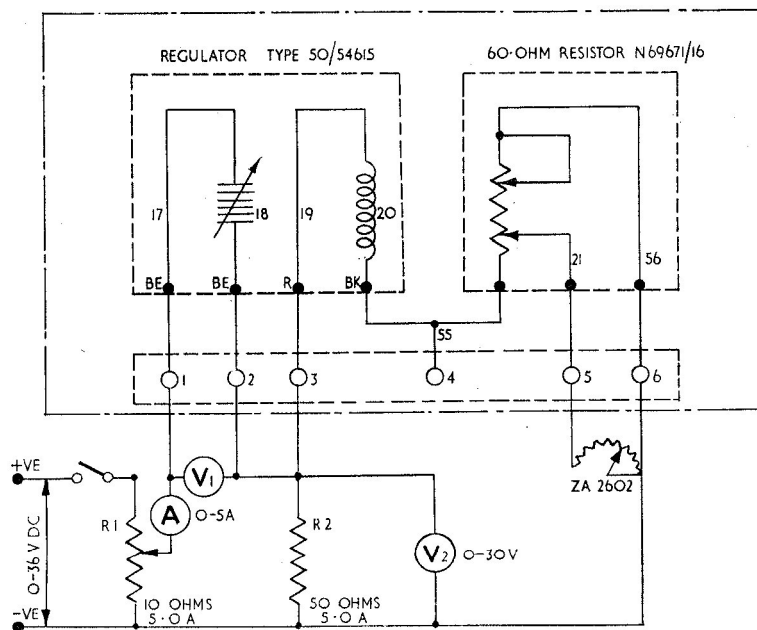

Fig. 2. Test circuit diagram
11. The unit should be connected as shown in the test circuit diagram (fig. 2). The unit should be tested on a ripple free d.c. supply, preferably obtained from batteries.